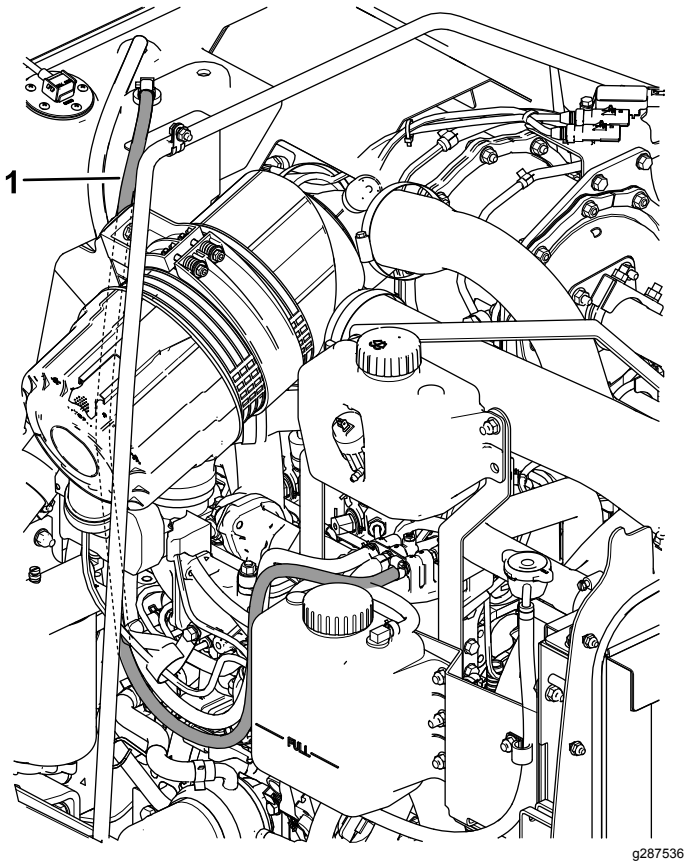

Figure 2
1. Remove the existing fuel hose shown in Figure 2.